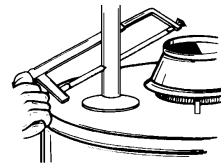

FIGURE 6.
6. If you have copper piping to the water heater, the two copper water pipes can be cut with a hacksaw approximately four inches away from where they connect to the water heater. See Figure 6. This will avoid cutting off pipes too short. Additional cuts can be made later if necessary. Disconnect the temperature-pressure relief valve drain line. When the water heater is drained, disconnect the hose from the drain valve. Close the drain valve. The water heater is now completely disconnected and ready to be removed.